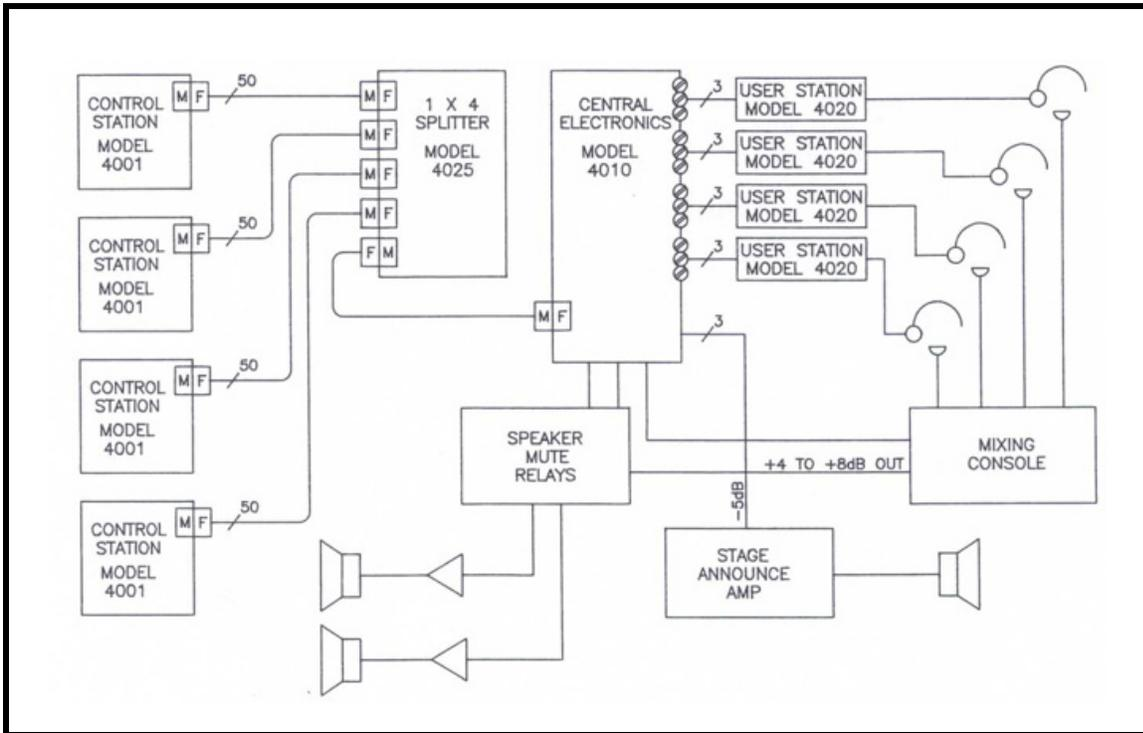

FIGURE 2. A Typical Configuration
A standard interrupted feedback system can consist of one(1) Model 4010 Central Electronics, four (4) Model 4020 User Stations, one(1) Model 4025 Splitter Assembly, and at least one (1) Model 4001 Control Station. As many as four (4) Control Stations may be used. See Figure 2.